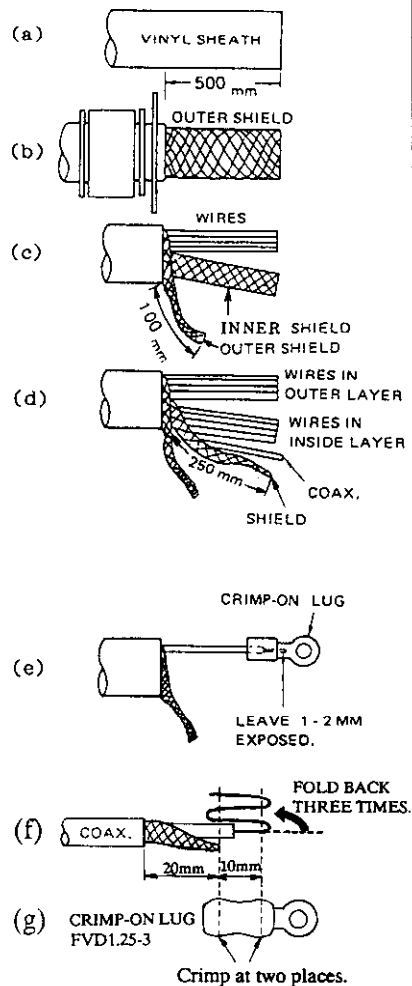

Fig.5 Fabrication of
4. Cut the cable leaving about 800mm from the cable gland, and fabricate it referring to Fig.5.
1. Being careful not to cut the outer shield, remove 500mm of the vinyl sheath. See Fig.5 (a).
2. Slide washer, rubber packing, washer and clamp plate of the gland over the cable. See Fig.5 (b).
3. Straighten the outer shield and separate the outer layer wires from those inside the braided shield (inner wires). See Fig.5 (c).
4. Take out the wires and coaxial wire from the inside layer. See Fig.5 (d).
7. Remove about 6mm of the vinyl insulation from the end of each wire. Fix crimp-on lug FV1.25-L3 (red) to each wire by using a crimping tool. See Fig.5(e).
8. Fabricate the end of the coaxial wire as shown in Fig.5 (f).
9. Fix crimp-on lugs FVD1.25-3 (red) and FV1.25-L3 (red) to coaxial cable and its shield, respectively. See Fig.5 (g).